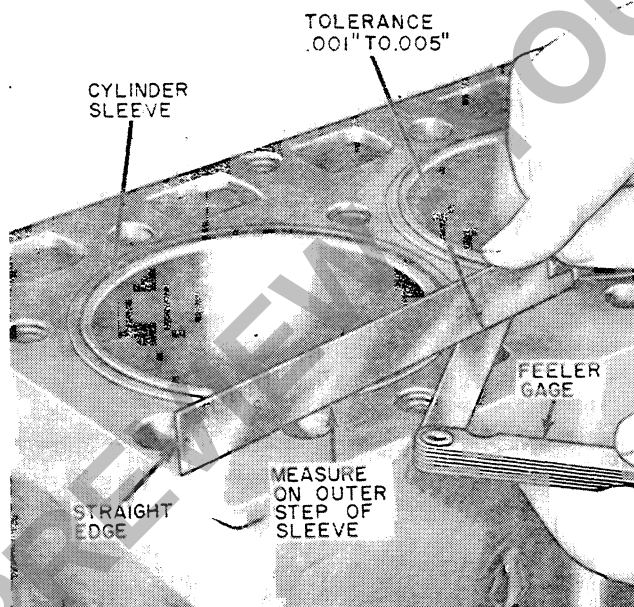

Figure 203 - Measuring the Height of Sleeve Above Engine Block
6. With sleeve in place, top surface of sleeve must be .001 to .005 of an inch above surface of the block, see Figure 203. This is to insure a good seal where gasket contacts sleeve. If necessary, shift sleeve from one bore to another to obtain desired projection.